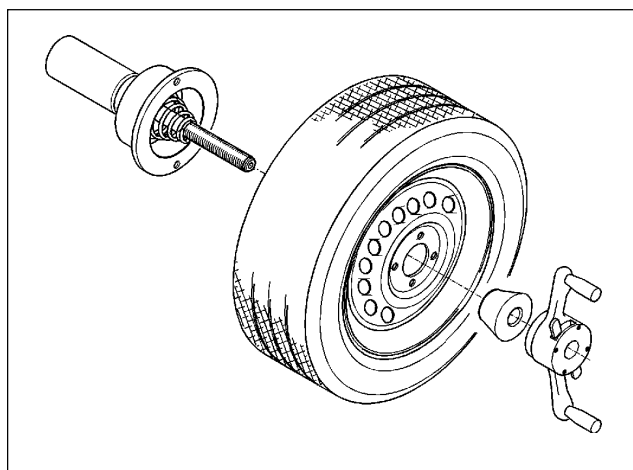

Fig.26
**E.** If the hole of the rim runs true on the outside of the rim, the rim can be mounted with a cone from the outside. This method is used on most light truck or 4-wheel drive steel rims (Fig.26). In this case do not use the plastic drum. If needed use an additional cone as a spacer.